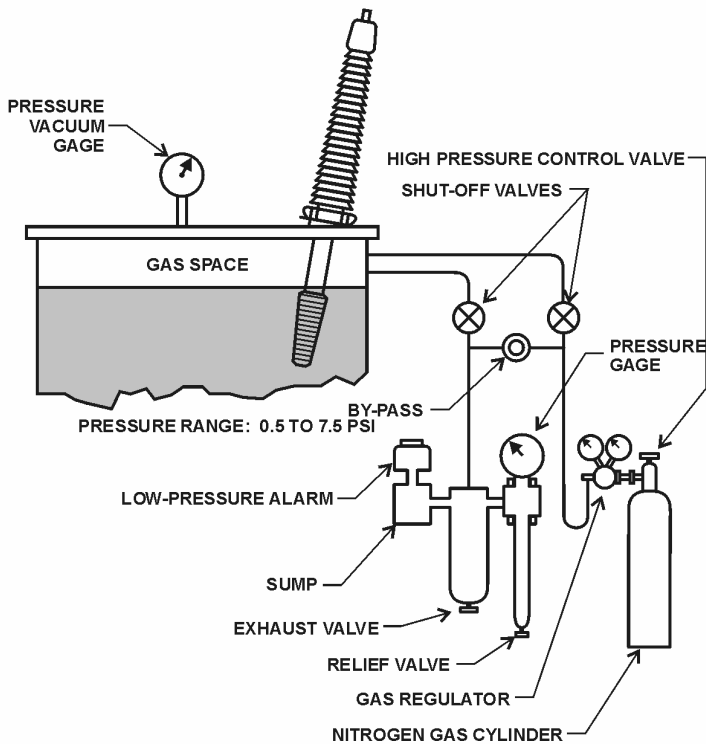
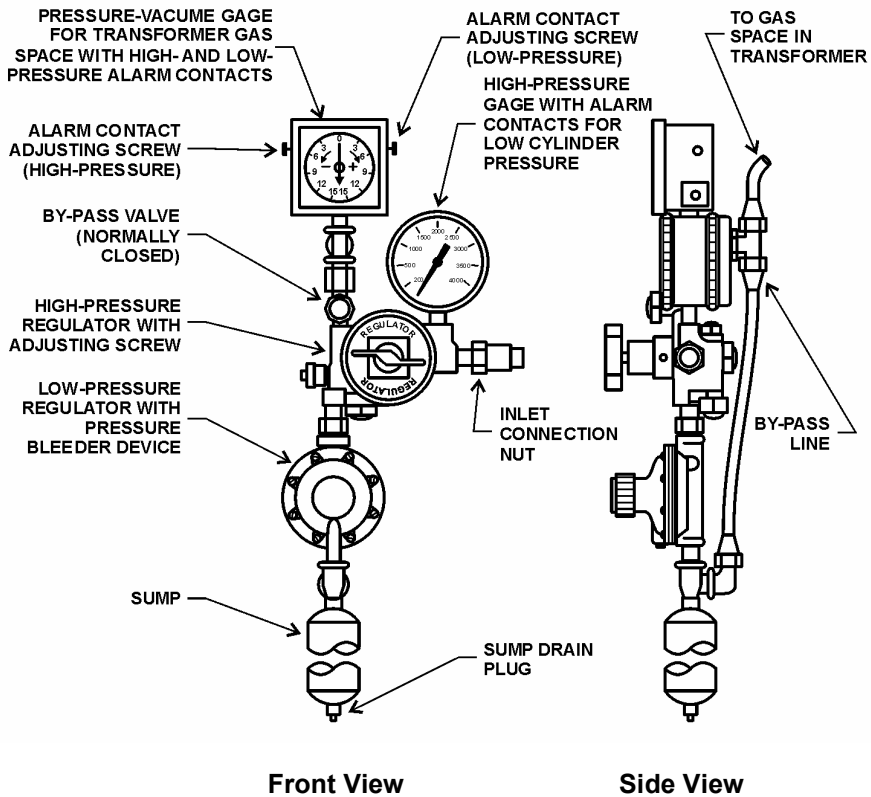

Figure 36 – Pressurized Inert Gas Transformer.
Figure 37 – Gas Pressure Control Components.
Sealing systems on many existing Reclamation power transformers are of the inert gas (nitrogen) pressure design; however, Reclamation has many other designs. Current practice is to buy only conservator designs with bladders for transformer voltages 115 kV and above and capacities above 10 MVA. Below these values, we buy only inert gas pressure system transformers, as depicted in figure 36 (page 79).
4.9.1.3 Pressurized Inert Gas Sealed System – This system keeps space above the oil pressurized with a dry inert gas, normally nitrogen (figure 36). This design prevents air and moisture from coming into contact with insulating oil. Pressure is maintained by a nitrogen gas bottle with the pressure regulated normally between 0.5 and 5 psi. Pressure gauges are provided in the nitrogen cubicle for both high and low pressures (figure 37). A pressure/vacuum gauge is normally connected to read low pressure gas inside the tank. This gauge may be located on the transformer and normally has high-pressure and low-pressure alarm contacts. See section 4.9.2, which follows.
4.9.2.1 High-Pressure Gauge – The high-pressure gauge is attached between the nitrogen cylinder and high-pressure regulator that indicates cylinder pressure. When the cylinder is full, the gauge will read approximately 2,400 psi. Normally, the gauge will be equipped with a low-pressure alarm that activates when the cylinder is getting low (around 500 psi). However, gas will still be supplied, and the regulating equipment will continue to function until the cylinder is empty. Refer to figure 37 for the following descriptions.